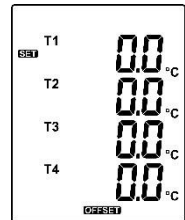

Fig.13
(1) Press the  or  button to select thermocouple channel. (see Fig.13)